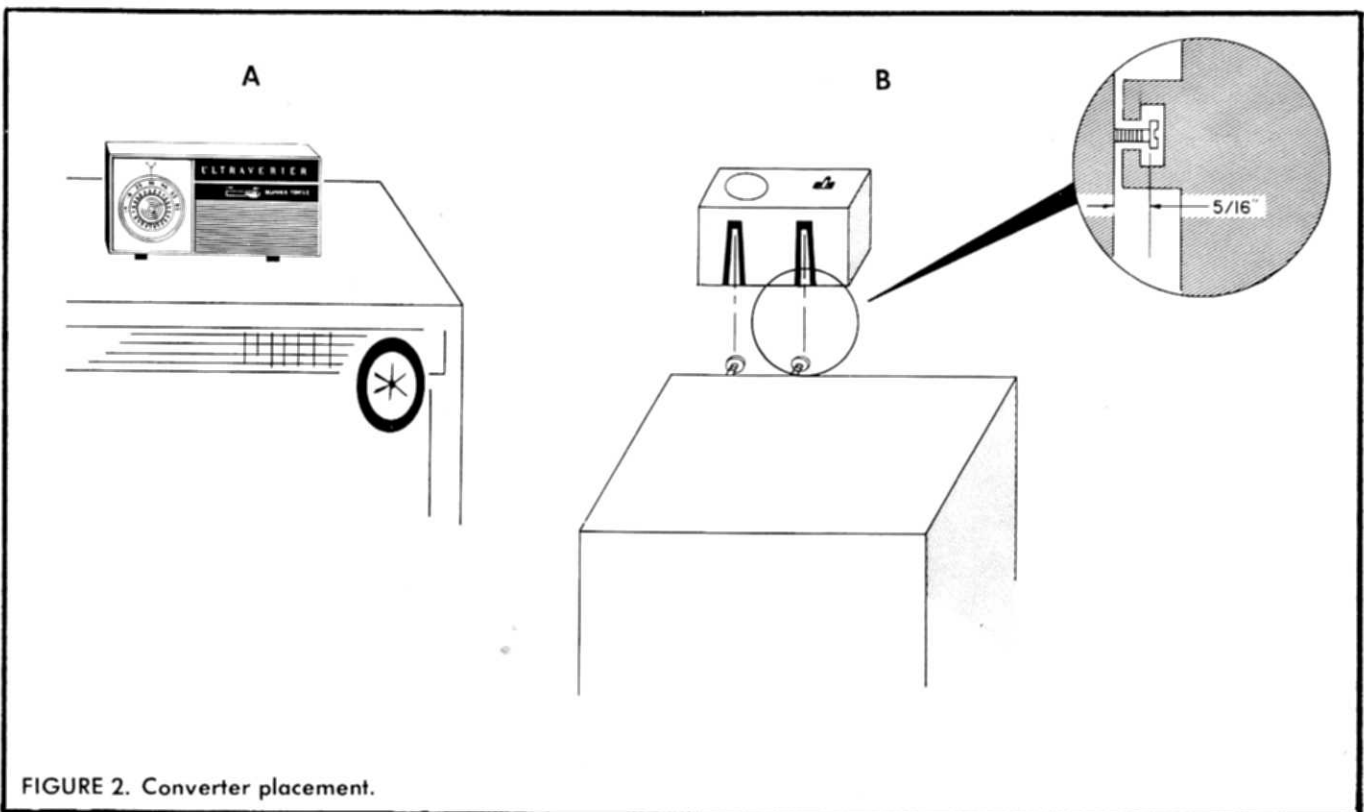
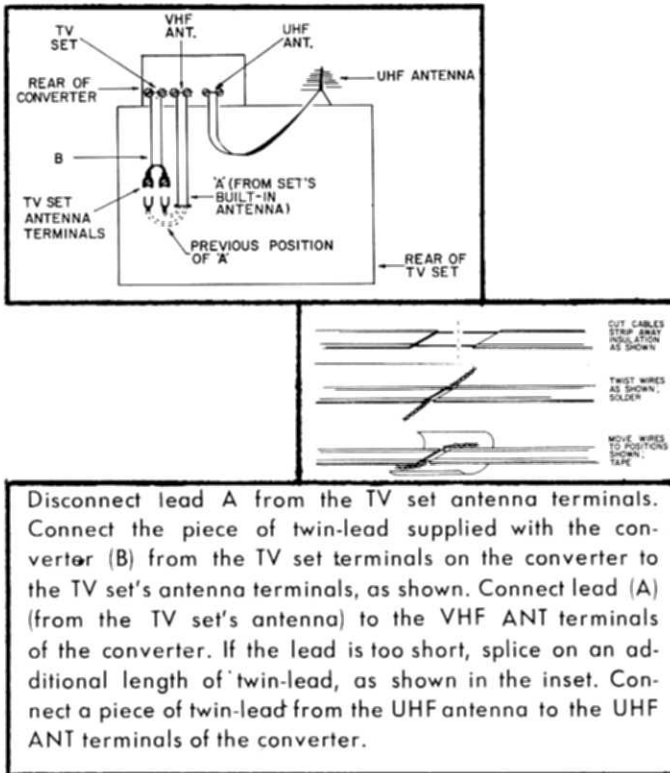

FIGURE 2. Converter placement.
FIGURE 3. Connection of converter to set with built-in antenna.
3. Connect the converter to your set, as shown in Figure 3 or 4, using the short length of twin-lead supplied. If you have connected the converter as shown in Figure 2, connect the other components in your system, as shown in Figure 5A, B, C or D.